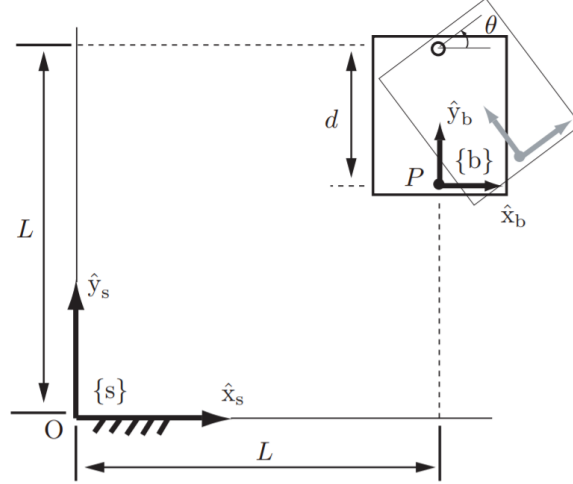

Figure 2: A 4R planar open chain.
2. (8pts) Referring to Fig. 2, a rigid body, shown at the top right, rotates about the point (L, L) with angular velocity $\dot{\theta} = 1$.